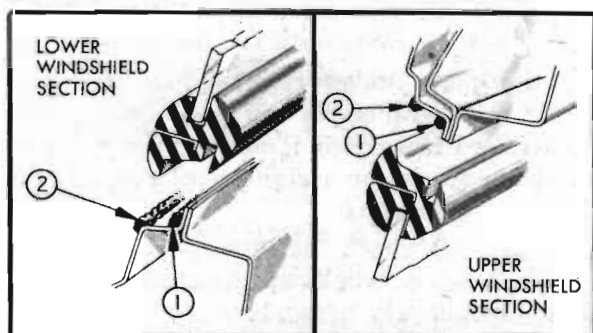

Figure 13-26—Location of Windshield Sealing Compounds
4. Apply continuous bead of 3-M Autobody Sealer around the windshield opening at (1) outer corner of pinchweld flange and (2) outer corner of windshield opening rabbet as indicated in figure 13-26. On *two-piece* windshield also apply a bead of sealer across the top and bottom of windshield center division bar.
6. Apply continuous beads of 3-M Autobody Sealer completely around the window opening at outer corner of pinchweld flange and outer corner of window opening rabbet as shown for windshield in figure 13-26.